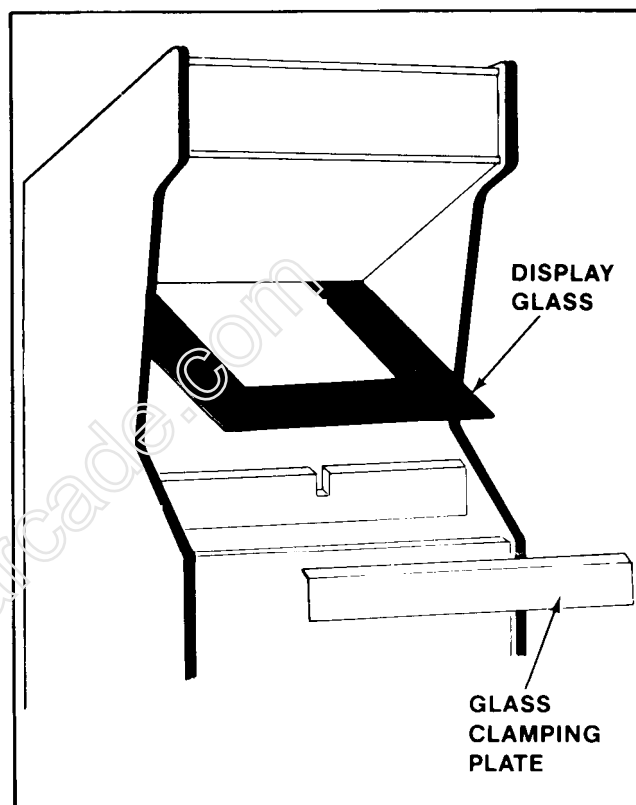

Figure 2-7 Removing the Main Display Glass - Upright
- ☐ Remove the screws which secure the glass clamping plate. See Figure 2-7.
- ☐ By putting your finger in the hole in the middle of the main-display-glass support, you can lift it up and out. See Figure 2-7.